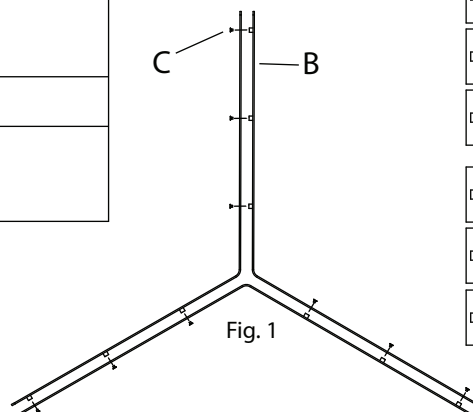

Fig. 1
1. Shut off power to the outlet box (A).
2. Assemble the spreader (B) on a flat surface using the screws (C) (Fig. 1).